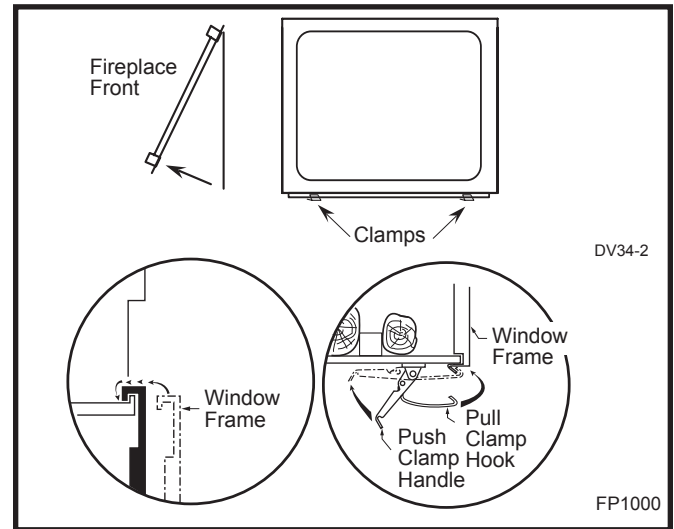

Fig. 16 Window Frame installation and removal.
7. To reinstall window frame follow the above procedure in reverse. (Fig. 16)